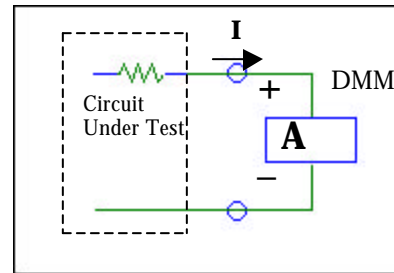

Figure 5. Probe/Meter Placement to Measure Current Through Meter
Next, connect the leads of the probes to the circuit in series with the location of the current in question (Figure 5). The current (I) lead connects to the “+” (pos) part of the circuit and the LO to the “-” (neg). If these are reversed, a negative value for the current is obtained.